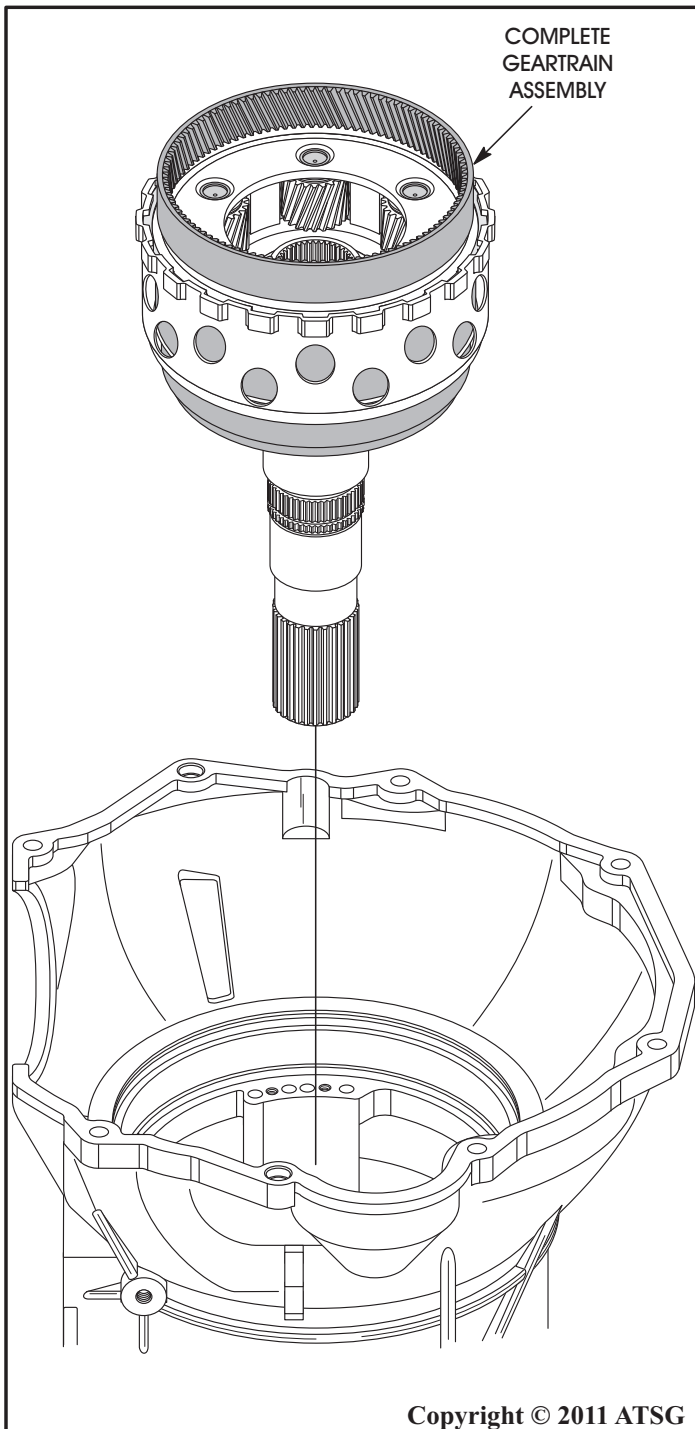

Figure 52
40. Remove the complete planetary geartrain as an assembly, as shown in Figure 52, and set aside for component rebuild section.